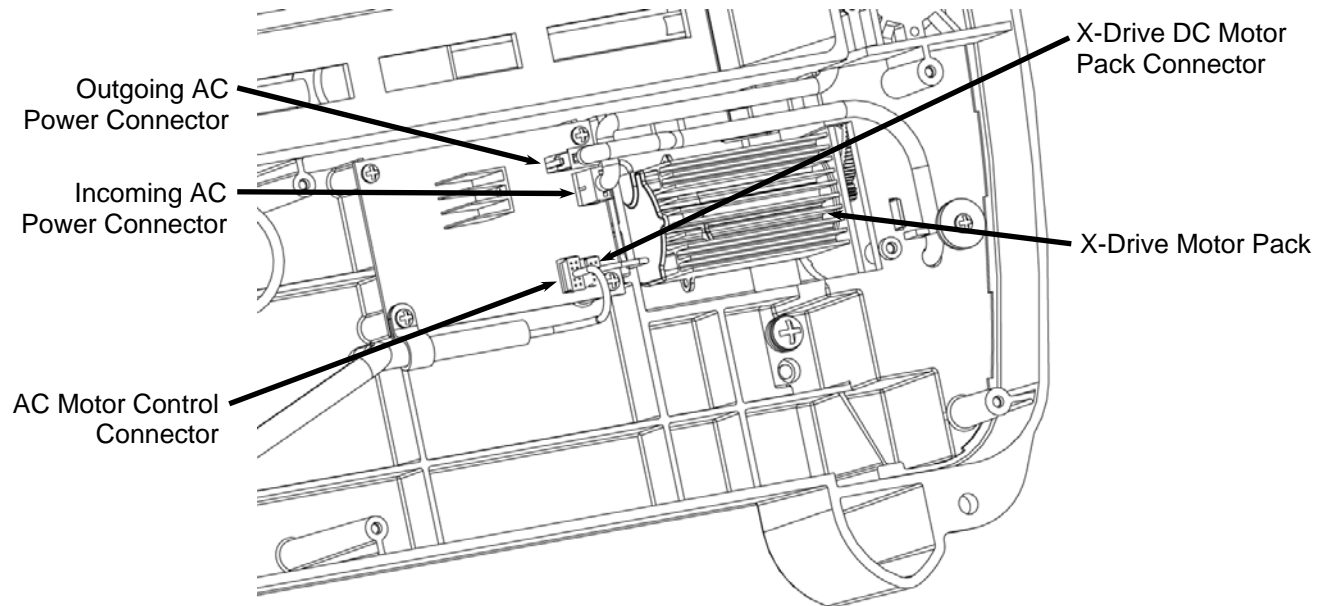
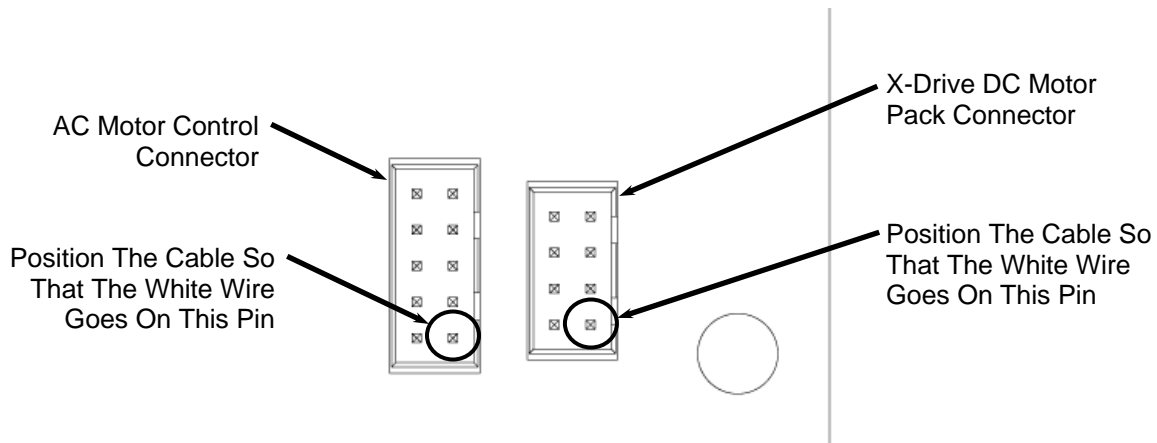

FIGURE 2: LOCATION OF THE AC MOTOR CONTROL CONNECTORS
FIGURE 4: CONNECTOR ORIENTATION
3. **Reconnect the cables to the AC motor control board.** Connect each of the four cables going to the AC motor control board as shown in Figure 2. Each cable connector has an orientation keying feature that restricts the connector from being plugged in backwards. **DO NOT FORCE A CONNECTOR.** If the connector does not seat easily please check the orientation and try again. For the AC motor control cable and the X-drive DC motor pack cable make sure that the white wires are positioned over the pins as shown in Figure 4.